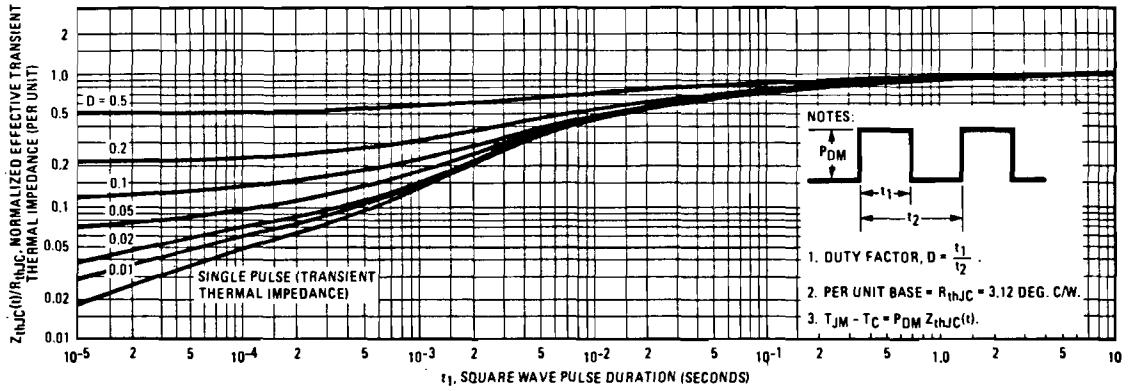

Fig. 5 – Maximum Effective Transient Thermal Impedance, Junction-to-Case Vs. Pulse Duration
- ① $T_J = 25^\circ\text{C}$ to 150°C . ② Pulse Test: Pulse width $< 300\mu\text{s}$, Duty Cycle $< 2\%$. ③ Repetitive Rating: Pulse width limited by max. junction temperature. See Transient Thermal Impedance Curve (Fig. 5).